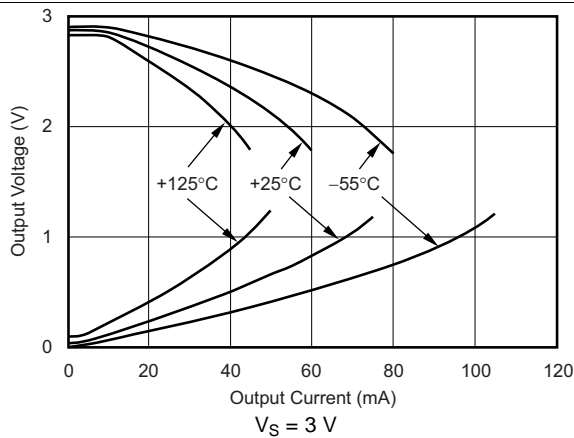
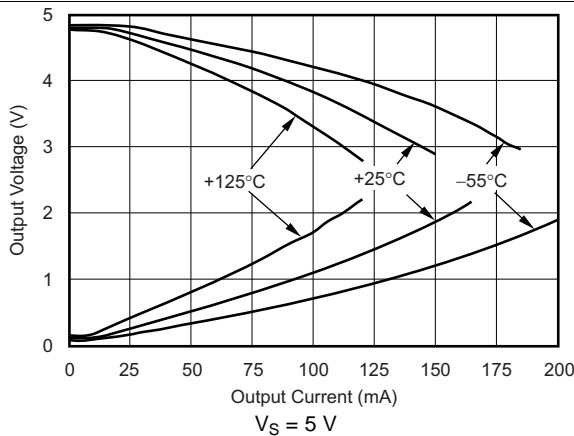
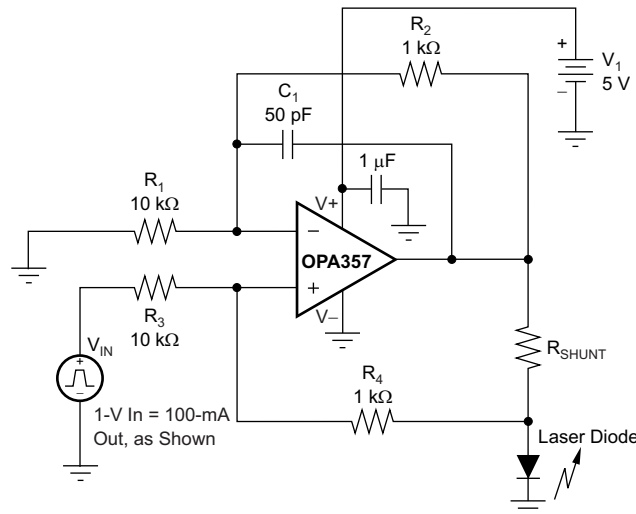

Figure 21. Output Voltage Swing vs Output Current
Figure 23. Output Voltage Swing vs Output Current
Figure 33. Laser Diode Driver
(1) See Figure 21 and Figure 23.
(2) Specified by design.
A class AB output stage with common-source transistors is used to achieve rail-to-rail output. For high-impedance loads ( $> 200 \Omega$ ), the output voltage swing is typically 100 mV from the supply rails. With 10- $\Omega$  loads, a useful output swing can be achieved while maintaining high open-loop gain; see Figure 21 and Figure 23.
The OPA357 output stage can supply a continuous output current of  $\pm 100$  mA and still provide approximately 2.7 V of output swing on a 5-V supply, as shown in Figure 33. For maximum reliability, TI recommends running a continuous DC current in excess of  $\pm 100$  mA; see Figure 21 and Figure 23. For supplying continuous output currents greater than  $\pm 100$  mA, the OPA357 can be operated in parallel as shown in Figure 34.